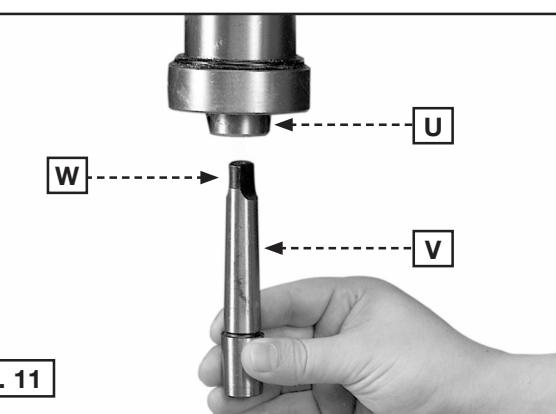

Fig. 11
IMPORTANT: Make certain that the tapered hole in the bottom of spindle (U) Fig. 11, and the taper on the spindle adapter (V) are clean and free of grease, lacquer or rust-preventive coatings.
Push the spindle adapter (V) Fig. 11 into the spindle (U). making certain that the tang (W) engages the mating slot inside the spindle (U).